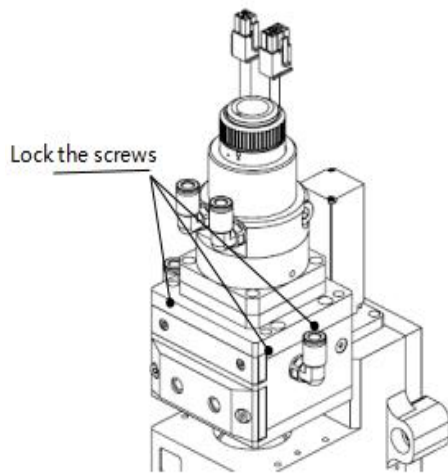

Figure 6.5 — Dismantle components
- Use a 3mm internal hexagonal wrench to unscrew the locking screws of the collimating components (as shown in Figure 6.5), seal the part connected with the components of collimating components with